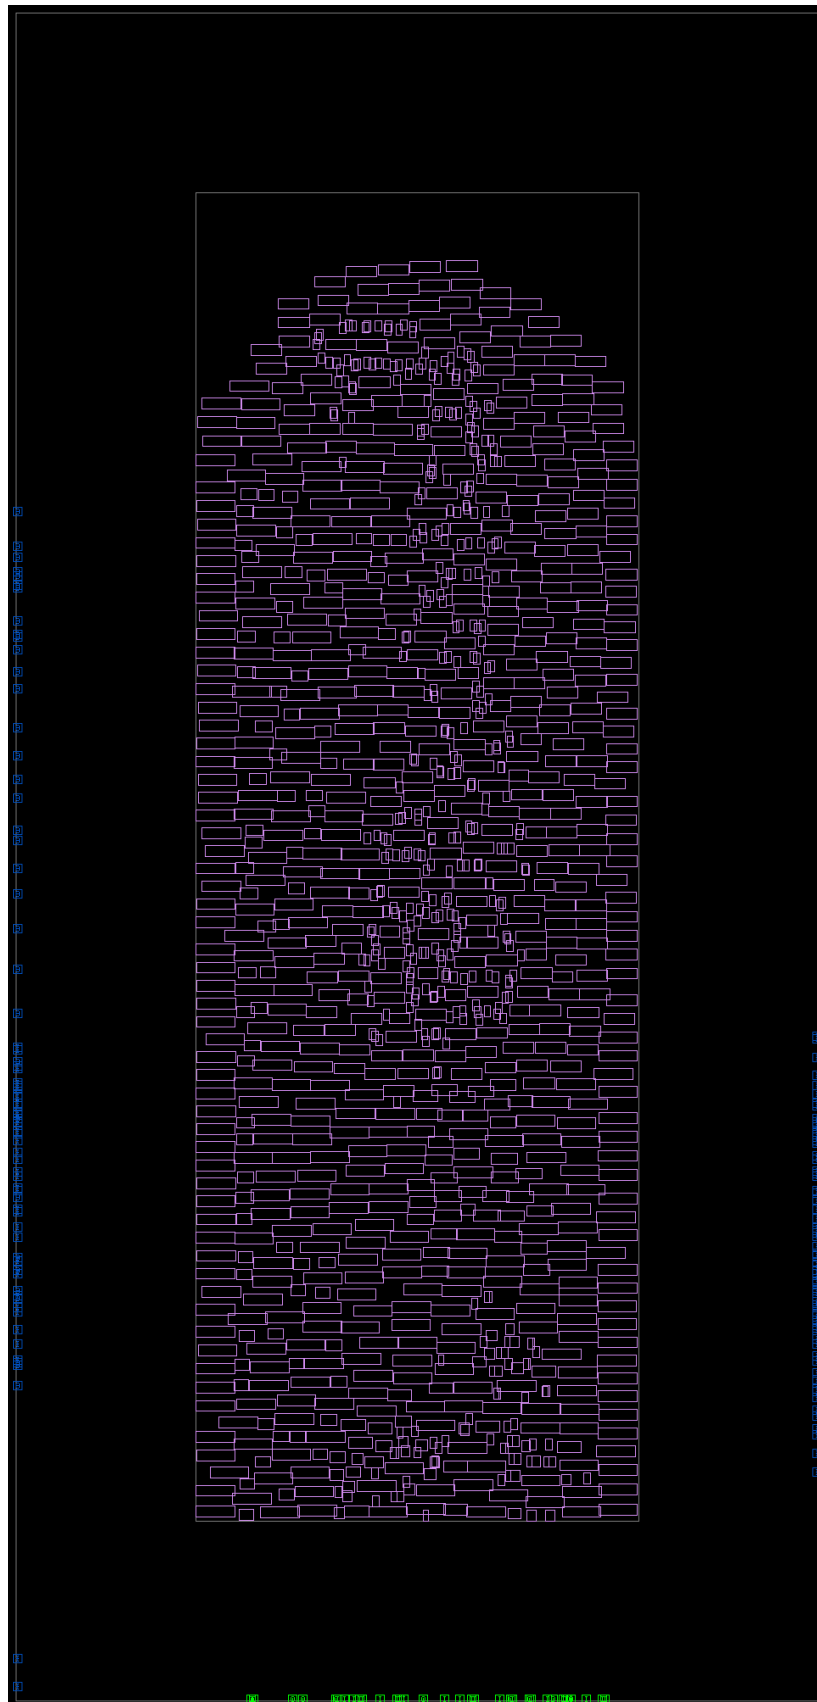

Figure 4.2: Automatic floorplan with constraints.
2. Constraints change the shape to a rectangle that stretches vertically, has some free space and a lot of free space around the core (Fig. 4.2)